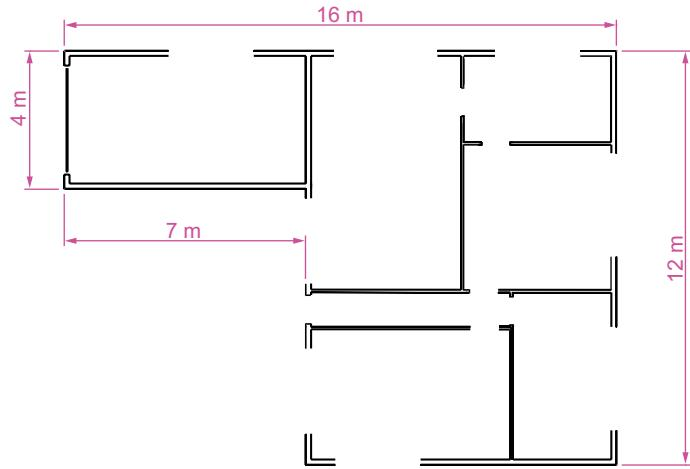

Fig. 9.5 First example – inserting blocks. Outline plan
of the drawings of the symbols and in their place construct the outline of the plan of a bungalow to a scale of 1:50 (Fig. 9.5). Then:
3. With the outline plan (Fig. 9.5) on screen the symbols can all be *dragged* into position from the DesignCenter.